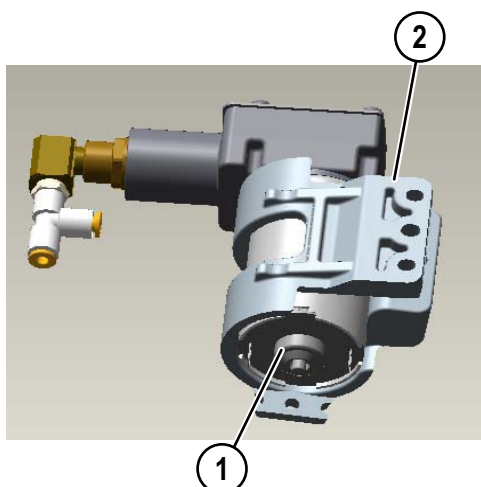

FIGURE 3-19.
13. Assemble new clamp (2, Figure 3-19) over new compressor (1) as shown.